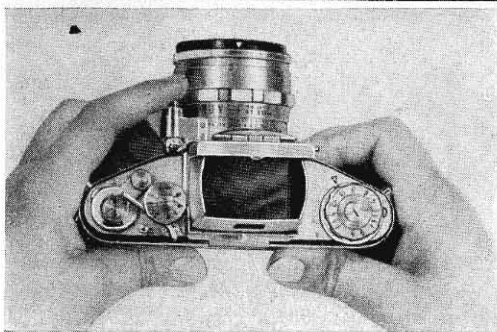

Fig. 11
To set, lift the knob (8) and turn it in the direction of the arrow till the selected exposure time is opposite the red mark on the immovable interior disk. Then let the knob (8) snap down. In the same way set the shutter for B and T. To release (Fig. 11) press knob (3), which also has threads for a cable release. The release knob may be protected against unintentional tripping by the swivelling shutter release lock (3a) (important for transporting as well as for storing the camera). To free the release knob for exposing the lock has to be swung up.